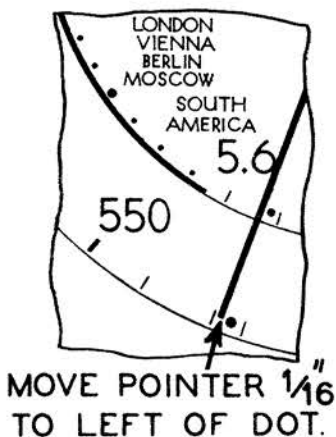

Fig. 6. Dial Calibration Model 4
2. Now turn the selector knob clockwise until the dial pointer moves 1/16 of an inch to the left of the small dot and the first straight line on the scale (See Fig. 6). Hold pointer and condenser in this position, and carefully loosen shaft coupling set screws.